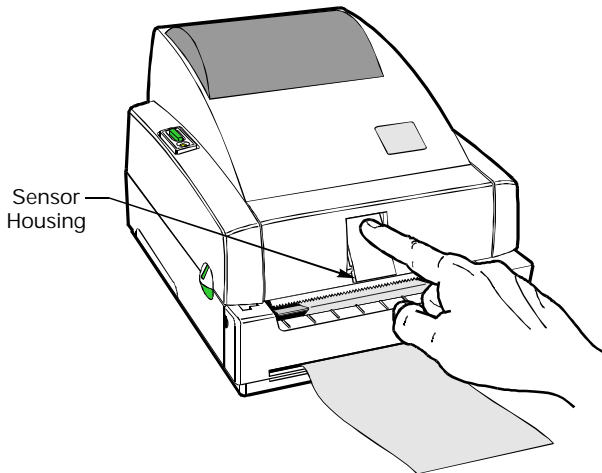

Figure 17
15. Close the top cover. Activate the label taken sensor by pushing in on the top of the sensor housing until it locks into position (refer to Figure 17).